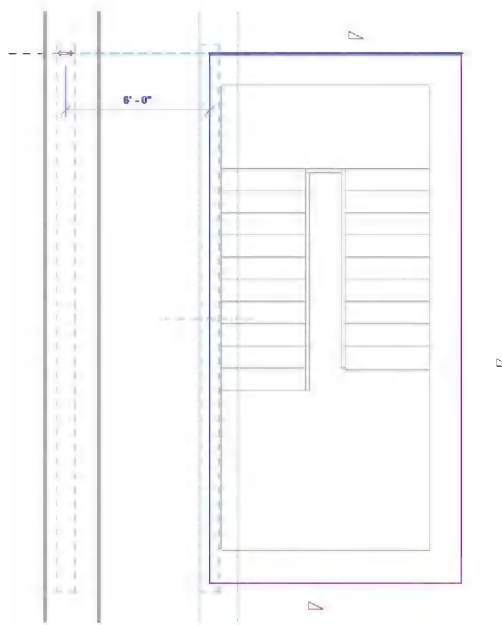

FIGURE 6-1.9 Modified roof footprint; East stair
26. Use the **Move** command to move the line **6'-0"** to the West (Figure 6-1.9).